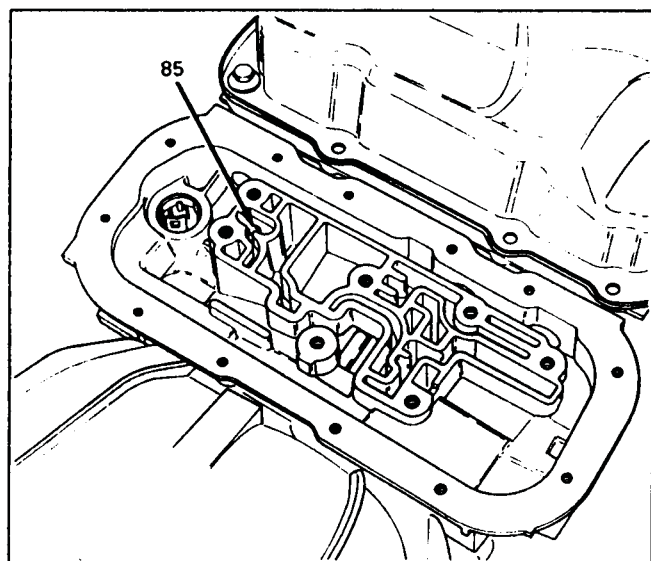

Figure 135
1. Some models require a checkball in the adapter case. Install checkball in the case passage, IF SO REQUIRED, as shown in Figure 135.